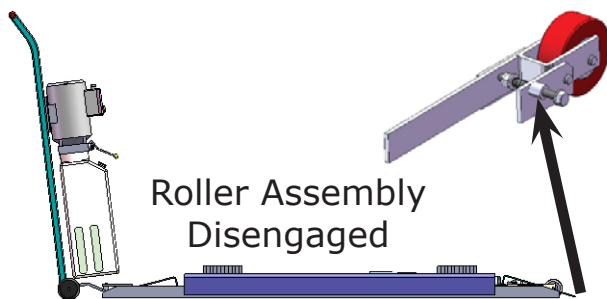

Fig. 16
2. The roller assembly must be disengage when lifting vehicle (**See Fig. 16**).